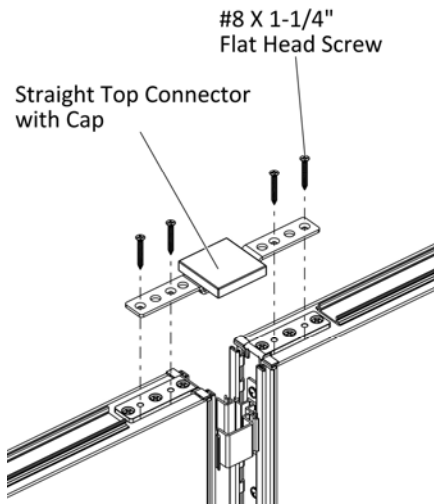

Figure 9
- 16. Securely fasten straight top connector with cap into the panels with four #8 X 1-1/4" Flat Head Screws, (Figure 9).